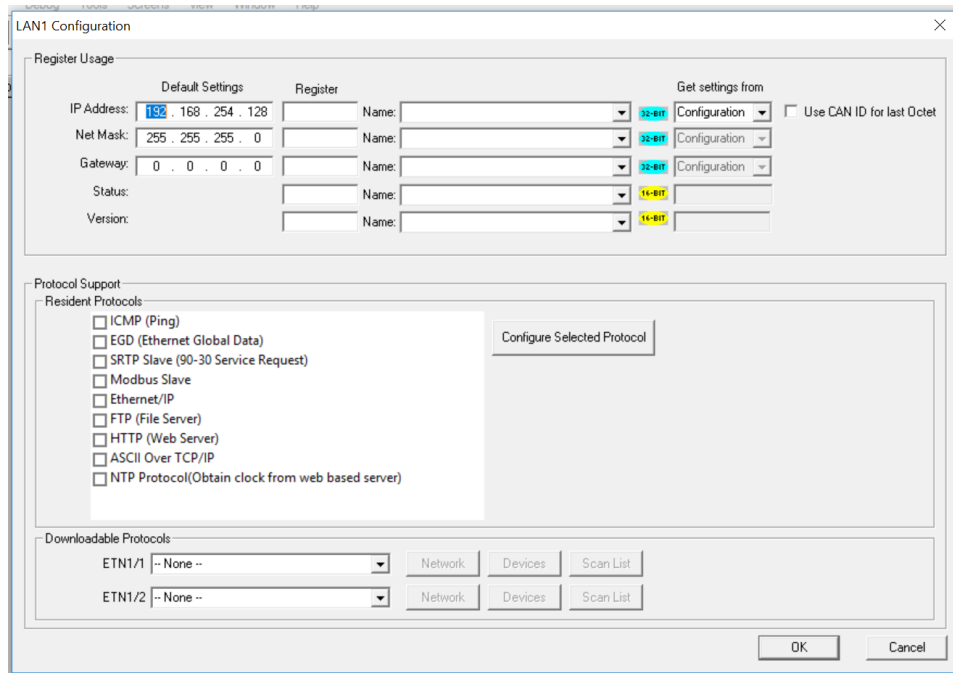

Figure 12.2 - Ethernet Module Configuration
3. Click the **Config** button to the right of LAN1 for LAN 1 or LAN2 for LAN2, revealing the Ethernet Module Configuration dialog as shown in Figure 12.2